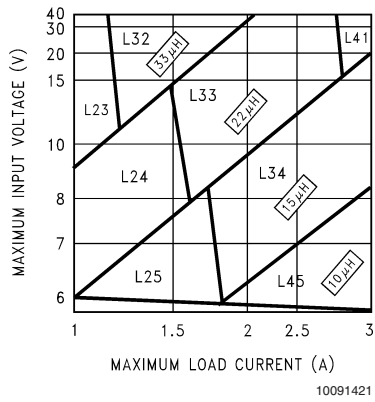
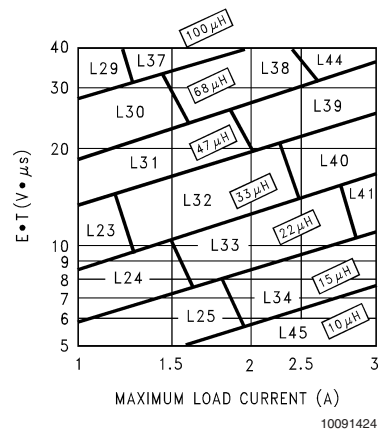

FIGURE 3. LM2676-3.3
FIGURE 6. LM2676-ADJ
**Step 3:** Determine the inductor required by using one of the four nomographs, *Figure 3* through *Figure 6*. Table 1 provides a specific manufacturer and part number for the inductor.
**Step 5:** Determine an input capacitor from Table 4 for fixed output voltage applications. Use Table 2 to find the specific capacitor type. For adjustable output circuits select a capacitor from Table 2 with a sufficient working voltage (WV) rating greater than  $V_{in\ max}$ , and an rms current rating greater than one-half the maximum load current (2 or more capacitors in parallel may be required).
**Step 3:** Use the nomograph for the 3.3V device, *Figure 3*. The intersection of the 16V horizontal line ( $V_{in\ max}$ ) and the 2.5A vertical line ( $I_{load\ max}$ ) indicates that L33, a 22 $\mu$ H inductor, is required.
**Step 3:** To use the nomograph for the adjustable device, *Figure 6*, requires a calculation of the inductor Volt•microsecond constant ( $E \cdot T$  expressed in  $V \cdot \mu s$ ) from the following formula:
Using *Figure 6*, the intersection of  $27V \cdot \mu s$  horizontally and the  $2A$  vertical line ( $I_{load} \max$ ) indicates that L38, a  $68\mu H$  inductor, should be used.
*Figure 6*, selects an inductance of  $22\mu H$  or less, Table 6 does not provide an output capacitor solution. With these conditions the number of output capacitors required for stable operation becomes impractical. It is recommended to use either a  $33\mu H$  or  $47\mu H$  inductor and the output capacitors from Table 6.